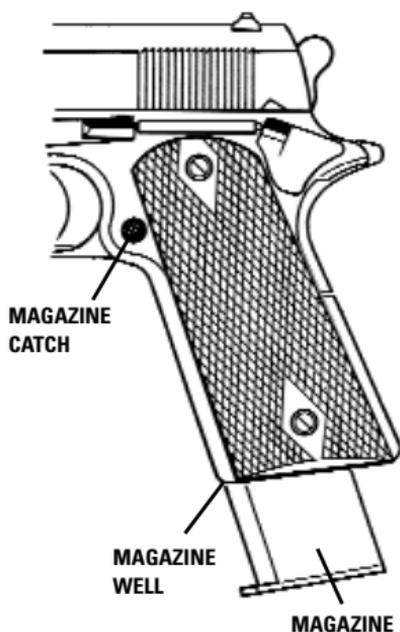

FIGURE 4
2. Remove magazine from pistol. Place your hand under magazine to prevent it from falling. Press magazine catch (located on left side of pistol behind trigger guard) to drop the magazine out of the magazine well (See Figure 4).